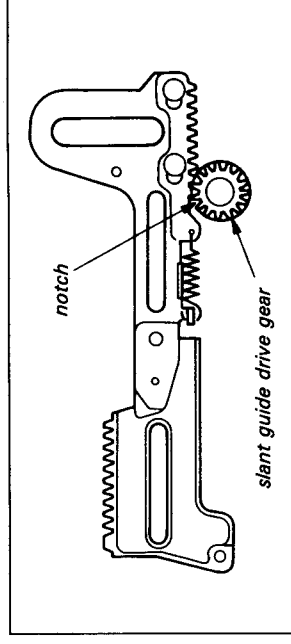

Fig. 7-32.
Note: At this time, confirm the engagement position of the slant guide drive gear and L slider assembly gear. (See Fig. 7-32.)
- 8) Engage the slant guide drive gear so that the notch is 1 tooth away from the L slider assembly left side tooth. (See Fig. 7-32.)
- 9) Mount the entrance guide (P) assembly according to 7-3-10., 2. Mounting.